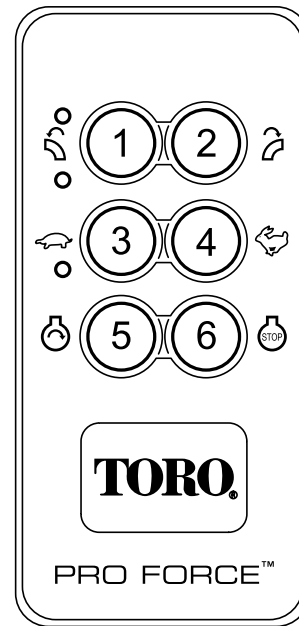

Figure 12
4. Engine Start will only become energized by pressing the Start button while the Engine Start Enable Condition is active. The Engine Start Enable Condition becomes active only when the following Engine Start Enable Sequence has been performed (Figure 12).